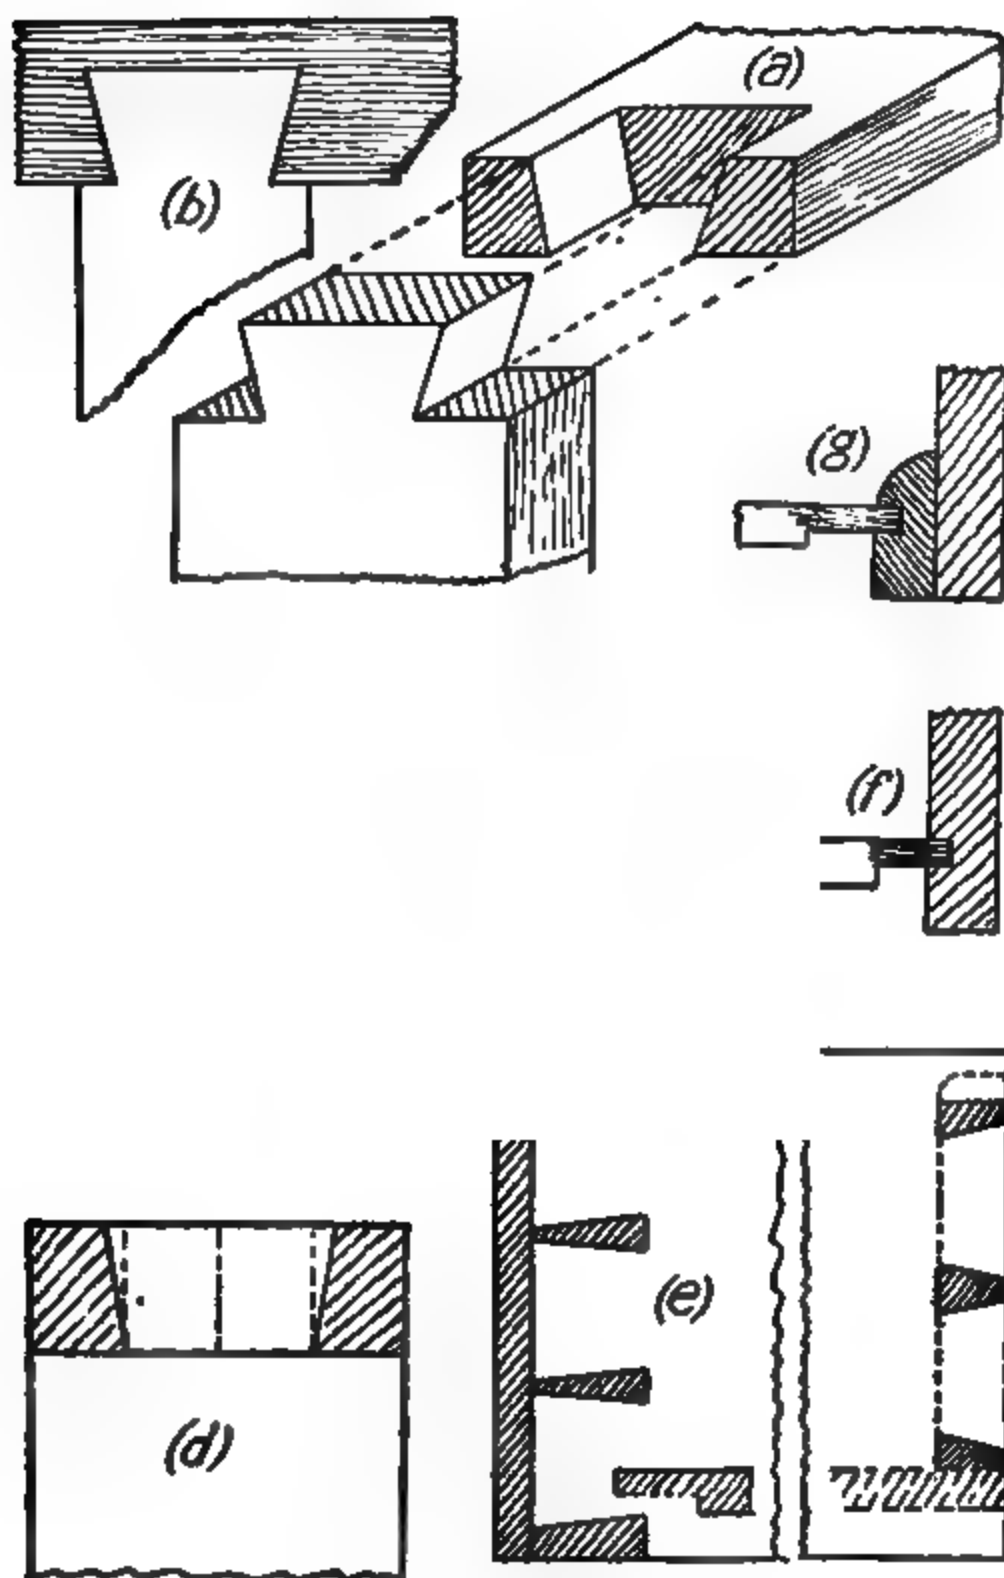

Fig. 10.—(a-e) Dovetailing; (f, g) grooves for drawer bottom.
*Dovetailing*.—This joint is used in all kinds of woodwork and in various forms. Fig. 10, *a*, illustrates a common “through” dovetail and its socket. The angle for cutting is about 1 in 6 or 8, and the size of the dovetail varies according to the work. Sometimes a dovetail is halved and stopped when used on a stretcher for a frame, bench, or seat, and the joint will appear as in Fig. 10, *b*. To mark off dovetails, a gauge must be set to the thickness of the wood and lines run across the sides of each end. A bevel should be used to mark the angles, but the proportions of the dovetails must be carefully measured out on the wood
first. A good distribution in a joint two inches wide would be to divide it into four, taking two middle parts for the " tail " and the outside quarters for the " pins " (Fig. 10, *a*), which apportions the strength equally ; but in the finer joints of a drawer the proportion is 5 or 6 for tails to 1 for the pins. In making the joint it is usual to cut down the line of the dovetail first, then to hold the piece firmly on the end of the other, insert the tip of the saw into the cut (Fig. 10, *c*), and press down and draw it out ; this will leave a line on the end of the under piece similar to the shape of the dovetail. When the socket is sawn, the cut must be made inside the line to ensure a tight fit. The waste side pieces of the tail are sawn away and the socket cut out with mallet and chisel.
*Drawer Dovetailing.*—The front and back of a drawer are shown in Fig. 10, *e*. It will be noted that the " pins " are made very fine, as this method has proved to be strong enough for the work. The back of a drawer is always shallower than the front, a space being left at the top to allow a free passage of air when the drawer is pushed in, and at the bottom to admit the drawer bottom, which is grooved into the front and screwed up into the lower edge of the back.
There are several ways of fixing-in a drawer bottom. The section (Fig. 10, *f*) shows a bottom sliding in a groove ploughed into the side of the
drawer, the edge of the bottom being rebated down to fit it. Unless the drawer side be at least half an inch thick, this groove weakens it ; and to overcome this, and also to give a wider surface for running, a piece called a "slip" (grooved and rounded on the top) is glued on the inside of the drawer side. This is shown in the sectional diagram, Fig. 10, *g*. These are the two common methods. There are others suitable for special work only. In a strong, roughly-made drawer—say for a work-bench—the bottom parts are merely nailed together, and a slip is nailed to the side for it to rest and run upon.